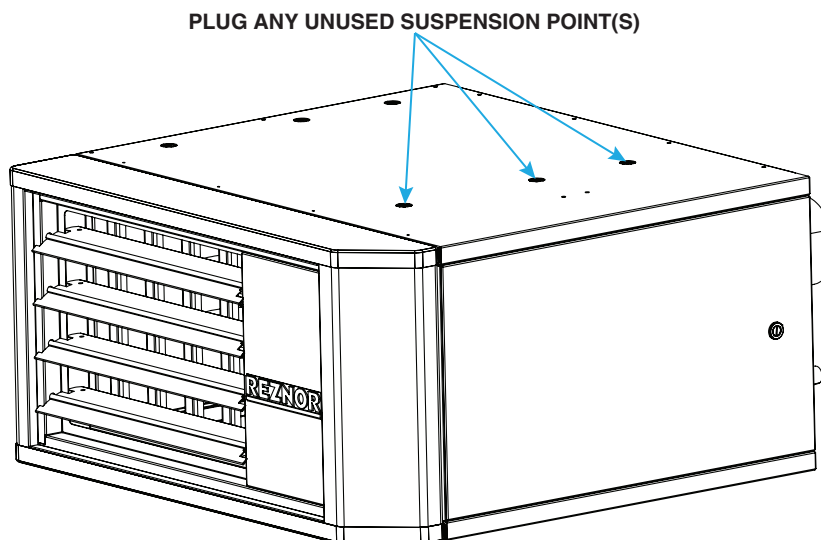

Figure 5. Plugging Unused Suspension Points (Models UBZ and UDX Only)
- In the literature bag shipped with the heater, there are three capscrews (PN 203311) and sealing washers (PN 61658). On UBZ and UDX models, these capscrews and washers must be used to seal any unused holes in the top of the heater (control side) after attaching the hanging hardware (see Figure 5).